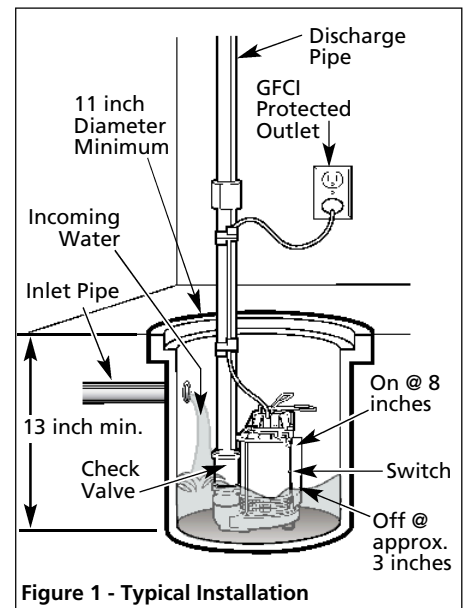

Figure 1 - Typical Installation
1. Install pump in a sump pit with minimum size as shown in Figure 1. Construct sump pit of tile, concrete, steel or plastic.
6. Position Pump switch AWAY from the inlet so switch is clear from incoming water (See Figure 1).